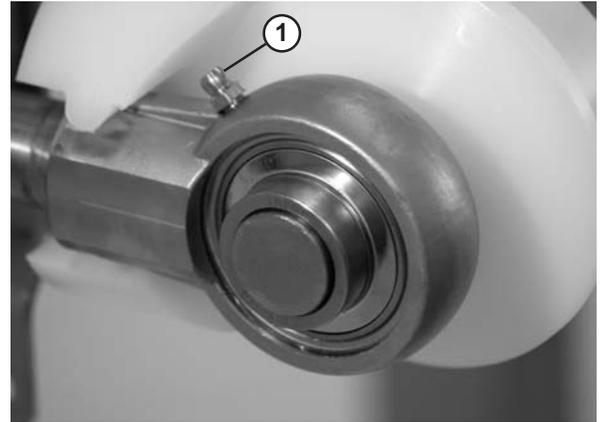

Figure 50
1. Add grease to the bearing using the zerk fitting (Figure 50, item 1) on the exterior of the bearing shaft assembly.